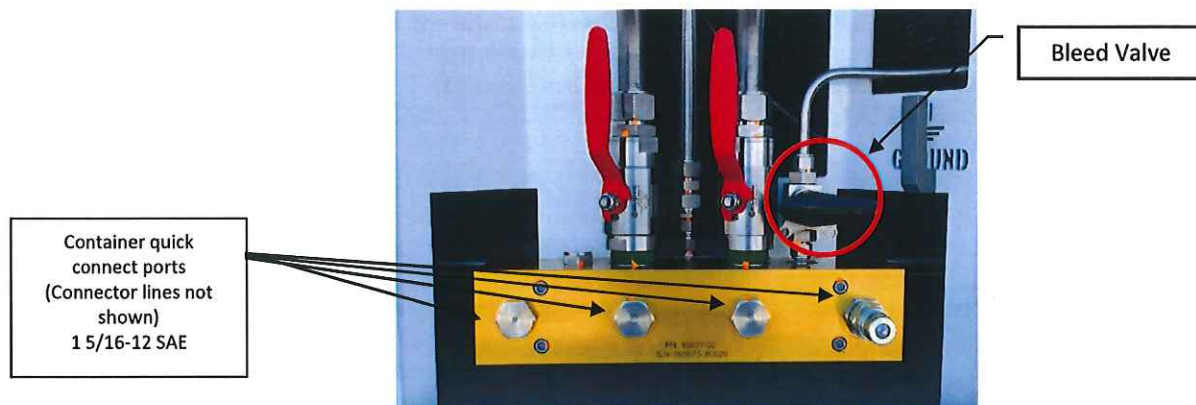

Figure 17: Connector ports and quick connect
7. Connect the station's fill line to the container's quick connect(s) Refer to Figure 17.
8. Close bleed valve shown in Figure 17.
10. Open Manifold Valves completely instead of "throttling" the valves shown in Figure 17.